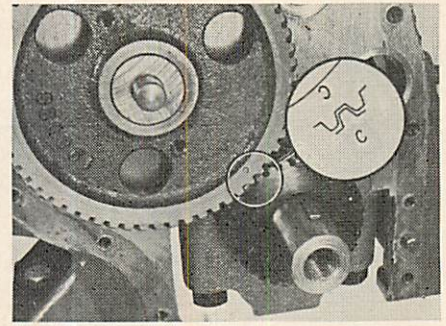

Fig. 059 — Valves are properly timed on all models when "C" marked tooth on crankshaft gear is meshed with "C" marked tooth groove on camshaft gear as shown.
69. Valves are correctly timed when the mark "C" on camshaft gear is aligned with identical mark on crankshaft gear as shown in Fig. 059.